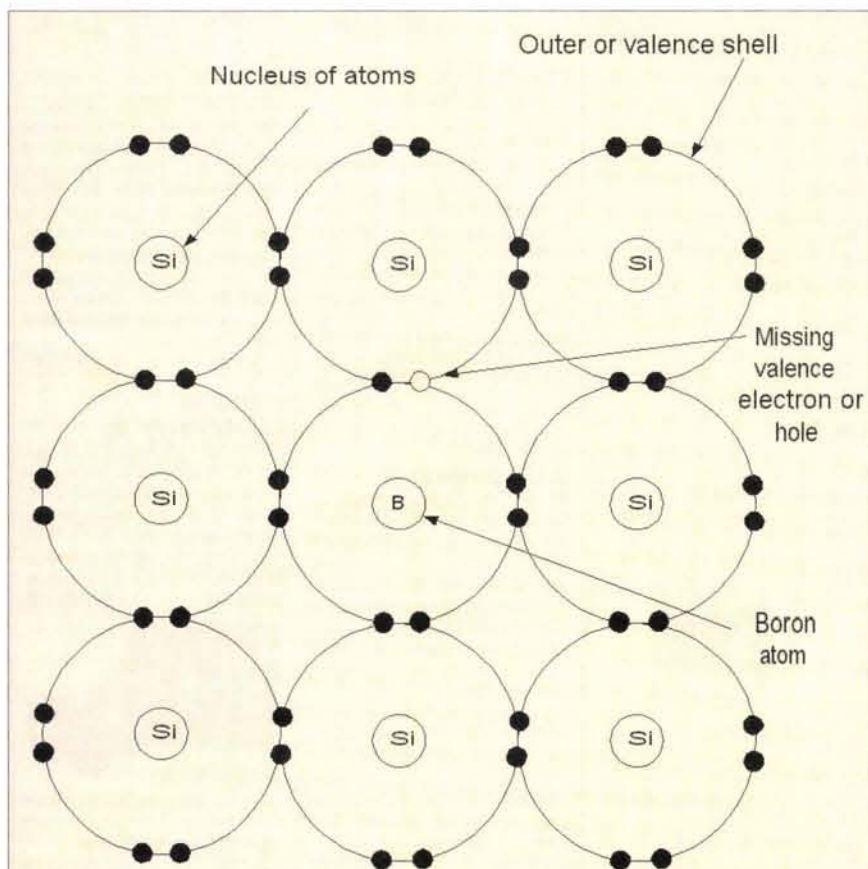

Figure 7. P-type semiconductor material where holes are the current carriers.
As you can see, current flow in N-type semiconductor material is still by electrons. However, we can also dope the silicon with a material that has only three valence electrons. This is illustrated in Figure 7 where the silicon is doped with boron (B) atoms. The three valence electrons in the boron atom form co-valent bonds with adjacent silicon atoms. However, one of the silicon atoms is missing an electron. This missing valence electron is referred to as a hole. A hole, therefore, is not an actual particle, but simply a vacancy in the valence shell of the crystal lattice struc-